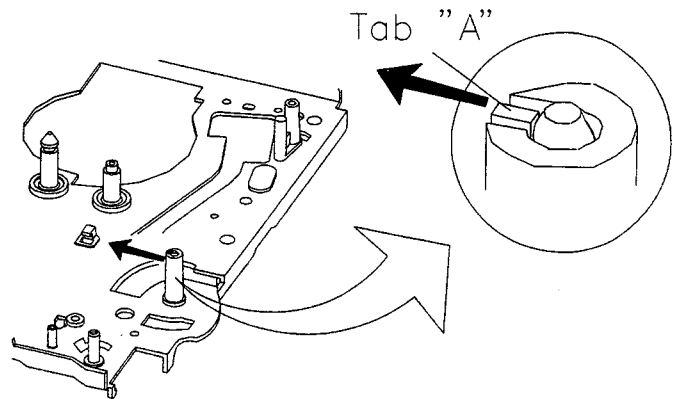

Fig.3-16 TENSION BAND ASS'Y REMOVAL (II)
- Turn the DECK MECHANISM over. (Fig.3-16)
- After separating the tab of hook 'A', remove the TENSION BAND ASSEMBLY ③. (Fig.3-16)